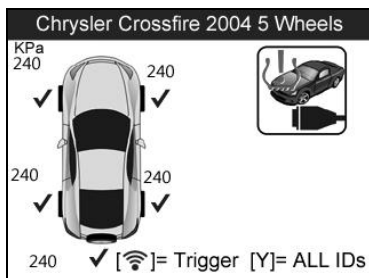

Figure 3.19
- 4) Follow the same process in **Direct Test** to the All Wheel Mode function menu screen, use the **UP/DOWN** scroll button and **LEFT/RIGHT** scroll button to select the **Relearn** function. (Figure 3.19)